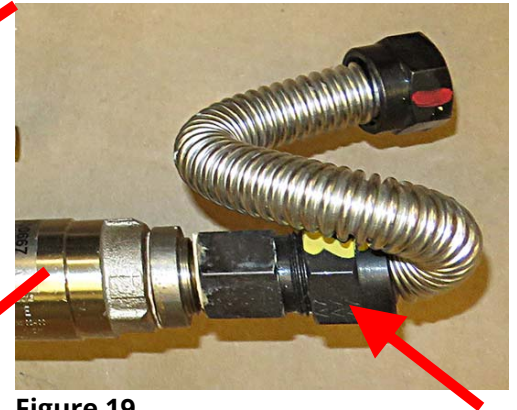

Figure 19
22. Remove the flexline disconnected from the manifold in step 6 (see Figure 19) and set aside.